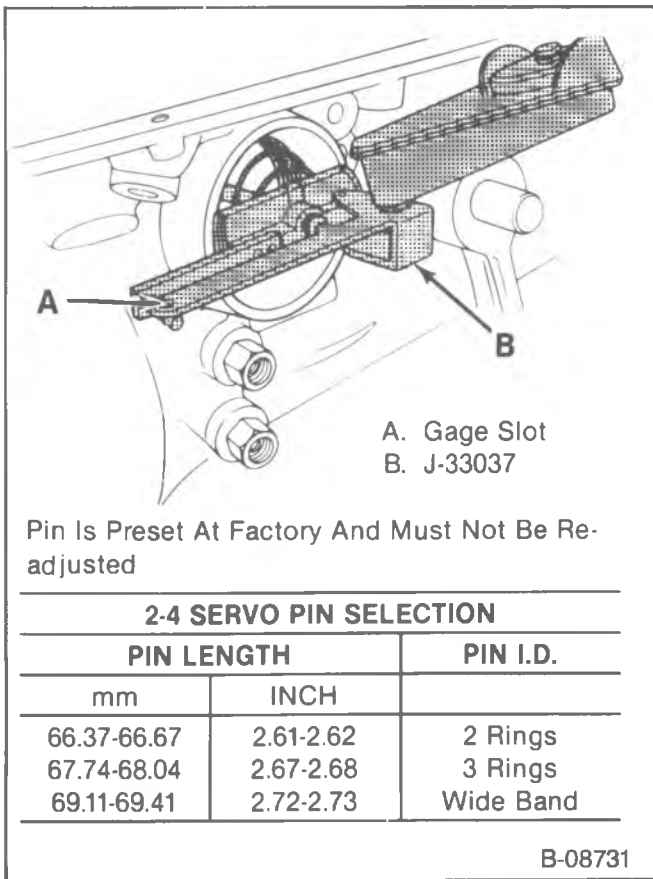

Figure 80—Measuring the Servo Pin Length (THM 700-R4)
Measure (Figures 80 and 81)
1. Servo pin length (Figure 80).
- Apply 11.0 N·m (110 in. lbs.) torque and check the gage slot (A).